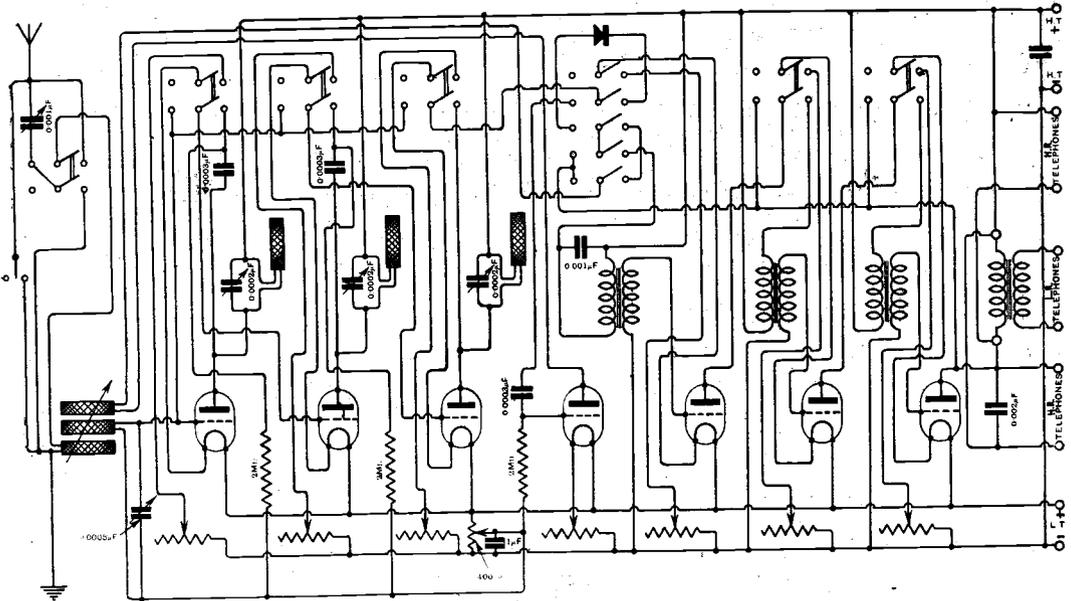

Fig. 2. "E.S.E." (Middlesex). A seven-valve receiver with three H.F., valve or crystal rectifier, and three note magnifiers.
(1) The diagram is given in Fig. 2. (2) The crystal detector will be quite satisfactory. (3) It would be advisable to obtain two complete sets of Igranic coils. (4) The correct coil for use in the closed circuit of the tuner may readily be selected with the aid of the chart prepared by the manufacturers of these coils. In general the aerial circuit coil will be a slightly larger one than the closed circuit coil when the aerial condenser is in series with it. The anode coil will be the next size larger than the closed circuit coil, and the reaction coil slightly larger than this.